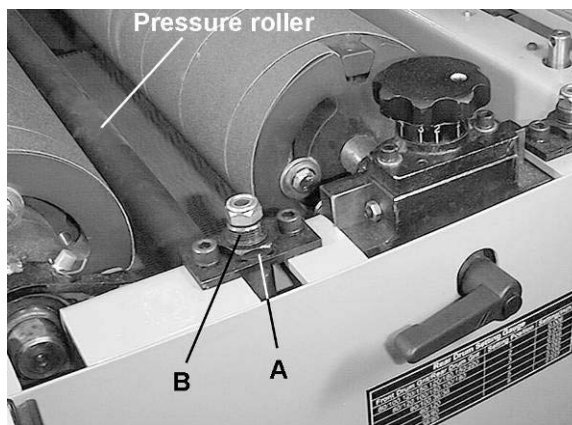

Figure 15
The pressure rollers (Fig. 15) maintain tension upon the workpiece as it passes through the machine. The spring tension of the pressure rollers has been factory set. If a board refuses to pass through the machine, or the finished surface of a board is uneven, the spring tension of the pressure rollers may need adjusting.
1. Loosen the hex nut (A, Fig. 15).
2. Place a 17mm wrench over the flat on the adjusting screw (B, Fig. 15) and lower the screw to increase the roller pressure on the workpiece; or raise the screw to decrease the pressure.
3. Retighten hex nut (A, Fig. 15).